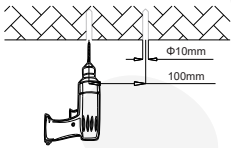

Figure 3
Step 1. Mark with a mark pen or sharp tool on the mounting surface and drill. (Figure 3)